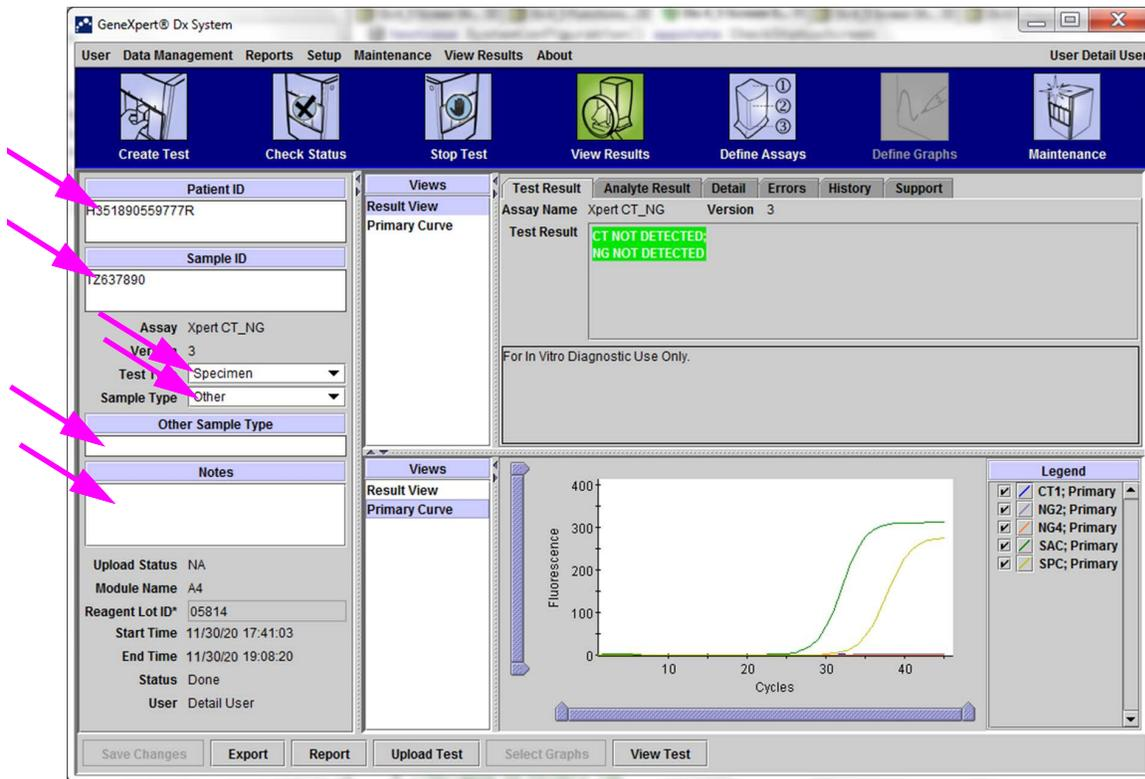

Figure 5-47. GeneXpert Dx View Results Window (Detail Users and Administrator View)
For each test, you can edit the Patient ID and Patient ID 2 (if they are enabled), Sample ID, Test Type, Sample Type, Other Sample Type, and Notes. To do this, in the View Results window (see Figure 5-47), edit the Sample ID, Test Type, Sample Type, Other Sample Type and Notes (see Figure 5-47). Sample IDs cannot include the following characters: | @ ^ ~ & / : \* ? " < > ' \$ % ! ; ( ) -.
1. In the GeneXpert Dx System window, click **View Results** on the menu bar. The **Test Result** tab is displayed. See Figure 5-47.